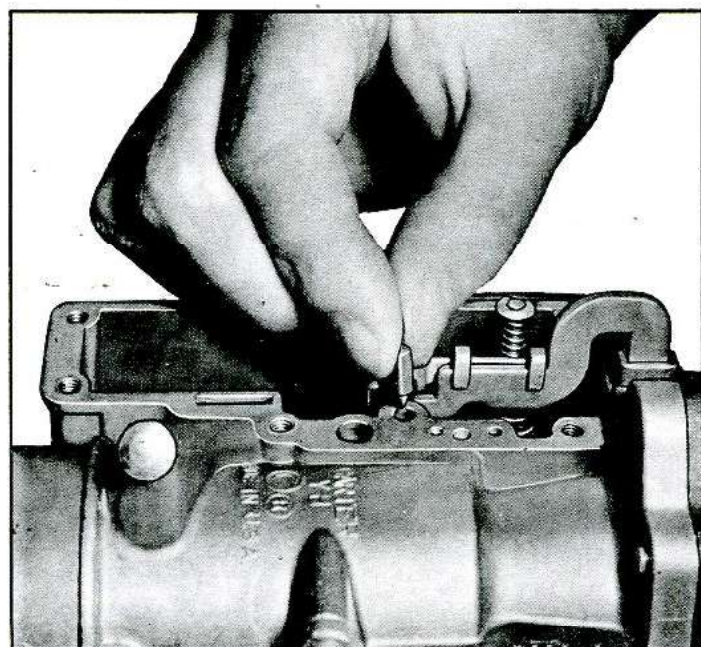

Fig. 33—Install Pump Discharge Needle
13. Install pump discharge-needle (fig. 33) then install a new cover gasket on bowl and install bowl cover and six screws.